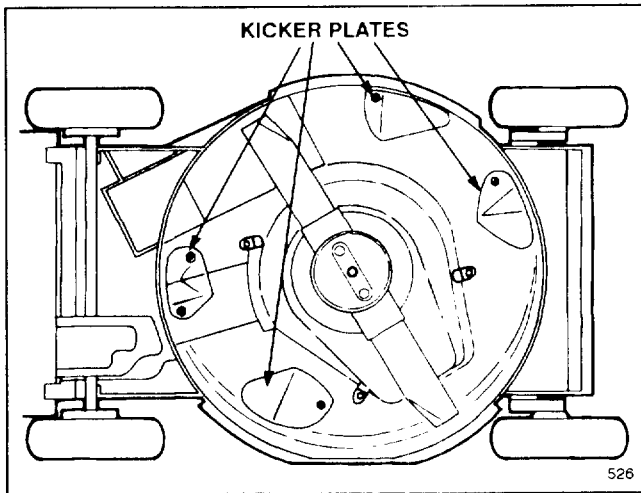

Figure 7
- Four "kicker plates" positioned on the underside of the mower deck in strategic positions (Fig. 7)